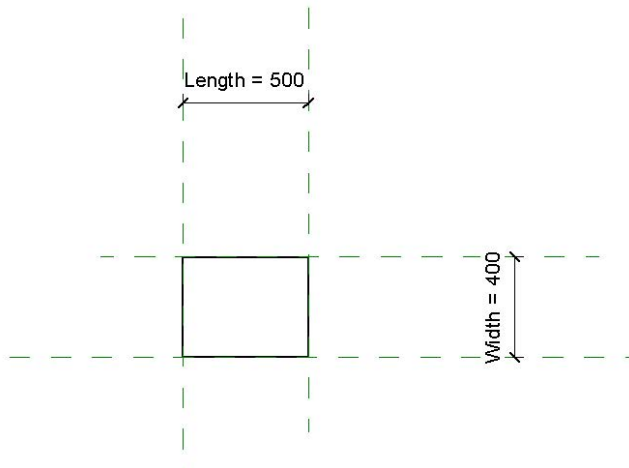

Figure 2: Generic Family Part
In this section you are going to create a simple box shape with adjustable height, length and width. Once this is created you are going to create 3 types of the family and insert an instance of each into a Revit project. The family part should have three (3) reference planes named 'Length', 'Width' and 'Height'. The family types should have the dimensions as shown in the table below. Your completed Revit Family should be named 'ParaBoxPart2.rfa' and included in your submission folder. Your completed Revit Project should be named 'Part2.rvt' and included in your submission folder. Fig: 2